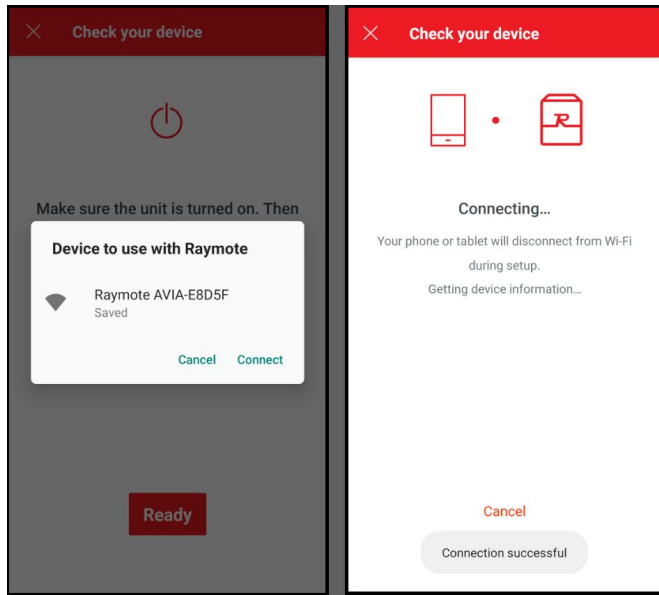

Figure 84. Connecting
- 3. You may be prompted to confirm selected heater. Wait a few seconds while the Raymote app connects to your heater as shown in **Figure 84**.